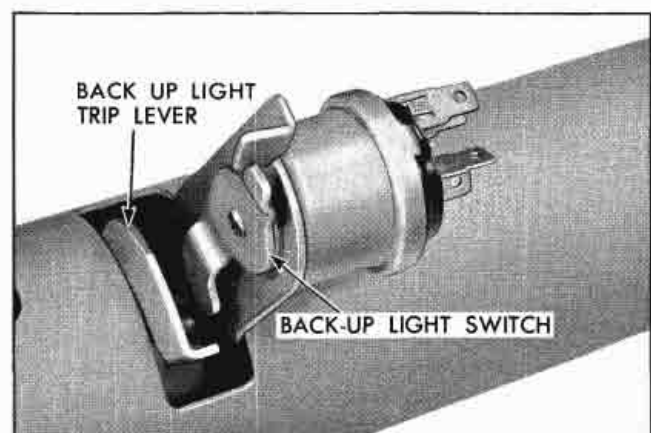

Fig. 7-16 Back-Up Light Switch Assembly
4. Remove shifter tube back-up light trip lever retaining screw and washer and remove lever through opening in steering column housing (Fig. 7-16).